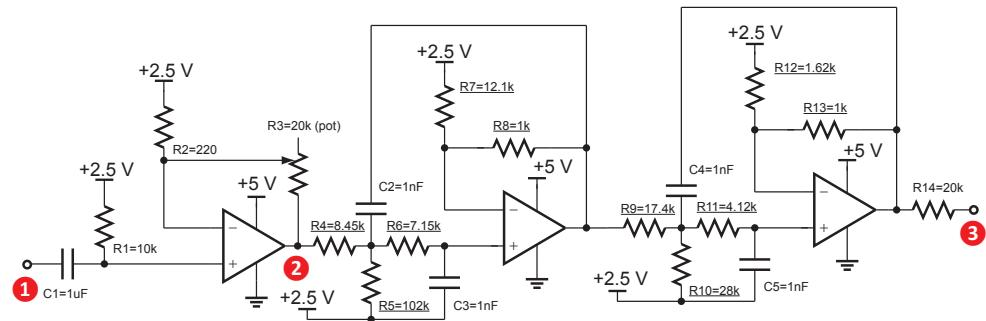

Figure 15: Schematic of the active low-pass filter. Underlined resistors values are 1% tolerance.
Fig. 15 shows the schematic of the active LPF circuit. The filter has a cut-off frequency of **15 kHz** and was designed with the TI WEBENCH filter design tool.
1. Identify the gain stage (between point 1 and point 2 Fig. 15). What is the expression of its gain? Notice that the +2.5 V supply does not affect this result, rather it simply sets the bias of the overall amplifier for maximum output swing because a single 5 V supply (battery) is used vs a dual-rail (both positive and negative) supply.
1. Identify the active LPF portion of the circuit (between point 2 and point 3 in Fig. 15). The overall filter consists of 2 low pass filters. What is the order of the overall filter and how is it determined from the schematic?
3. To measure the filter response only, input a 3 Vpp signal through a series $1\ \mu\text{F}$ capacitor at point 2 in Fig. 15 and measure the output through R14 (at point 3 in Fig. 15). Tabulate and plot the frequency response from 100 Hz to 150 kHz. What is the cutoff frequency of the filter?